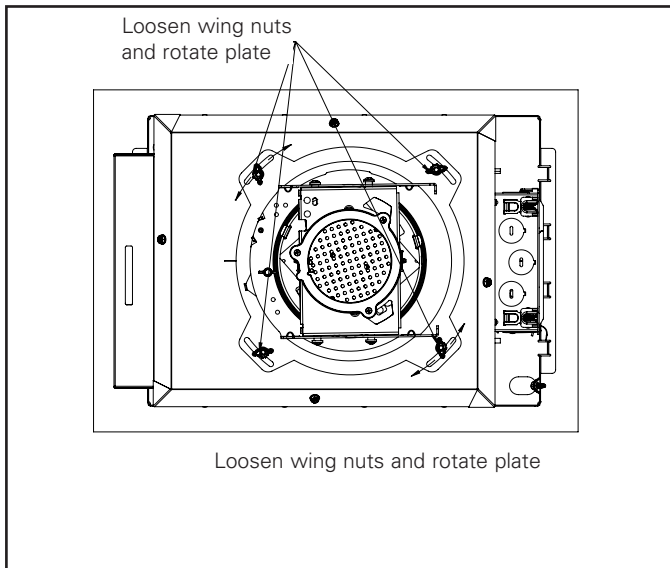

Figure 6.
6. For square apertures, the edges of the collar may be adjusted to align them parallel with room walls. This can be done by reaching into the cutout and loosening the wing nut inside housing as shown in figure 6. Note: the optics may need to be removed to access these screws, see the section on replacing optics. The entire turntable can be rotated by grabbing the edge of the collar until it is aligned as desired. The turntable wing nuts should be tightened again, (and the optics module replaced, if it was removed).